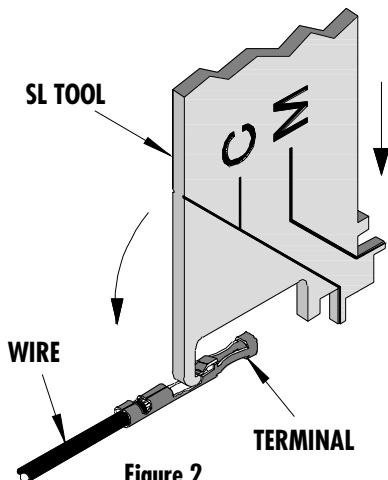

Figure 2
1. Insert the probe of the SL tool under the depressed locking tang as shown in Figure 2.
2. Pull the housing out in the direction of the arrow. See Figure 2.